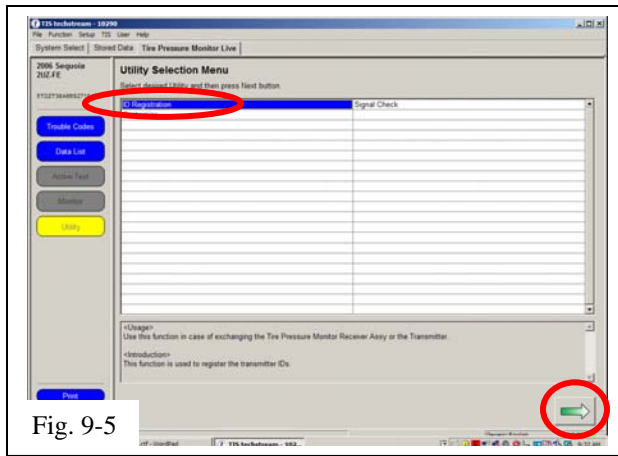

Fig. 9-5
- (h) Select “ID Registration” then click the green arrow located at the bottom right corner. (Fig. 9-5)